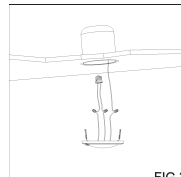

FIG.3
**Nuts or push wires into Quick Connector. Connect white to white , black to black, and copper wire to copper wire as grounding connection.(FIG.3)**